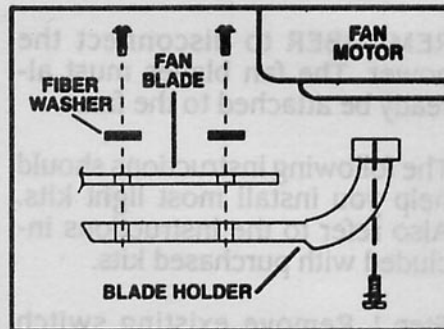

FIG. 15
Step 1. Attach the fan blades to the blade brackets using the 4.5mm screws and fiber washers provided as shown in Figure 15. Tighten screws securely.
step 2. Remove motor stops from bottom of motor. Insert screws with lock washers through blade holder. Tighten screws securely to motor (Figure 15)